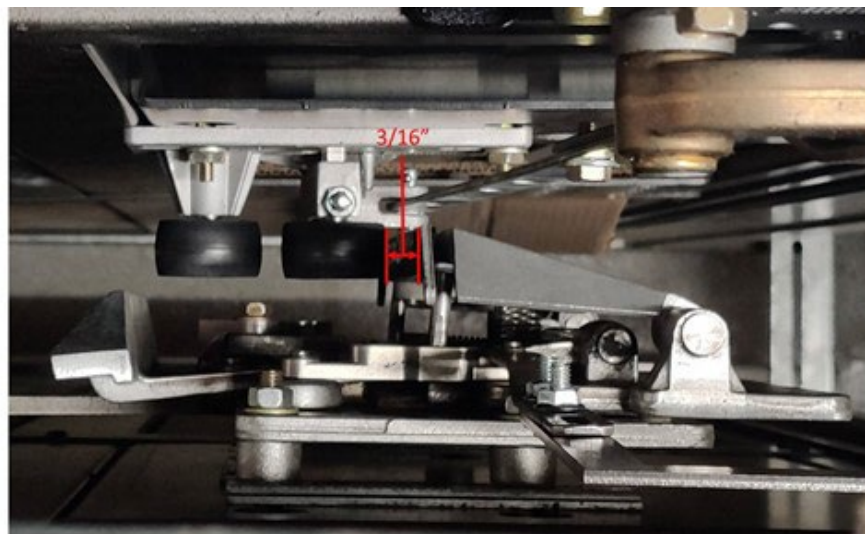

Figure 38: Doors Closed with Clutch Fully Expanded
3. Once the clutch has fully expanded there should be a $\sim 3/16$ " gap between the clutch sensing vane and the roller release. The close vane should be fully retracted from the roller release. See **Figure 38** below.